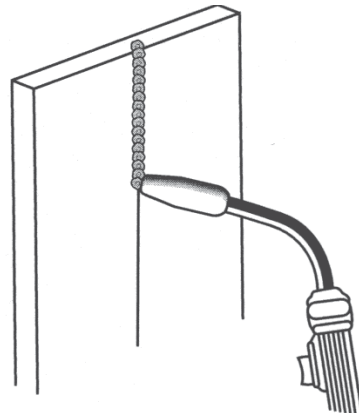

Figure 16. Vertical Position
3. The **VERTICAL POSITION** (Figure 16) is the next most difficult position. Pulling the gun from top to bottom may be easier for many people, but in some instances it can be difficult to prevent the puddle from running downward. Pushing the gun from bottom to top may provide better puddle control and allow slower rates of travel speed to achieve deeper penetration. When vertical welding, angle B (see **HOLDING THE GUN** - p.18) is usually always kept at zero, but angle A will generally range from 45 to 60 degrees to provide better puddle control.